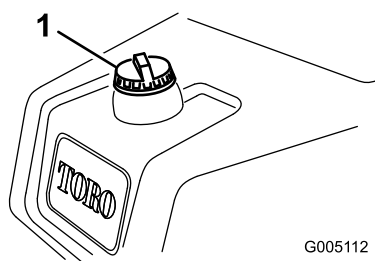

Figure 21
1. Clean around the fuel tank cap and remove it (Figure 21).